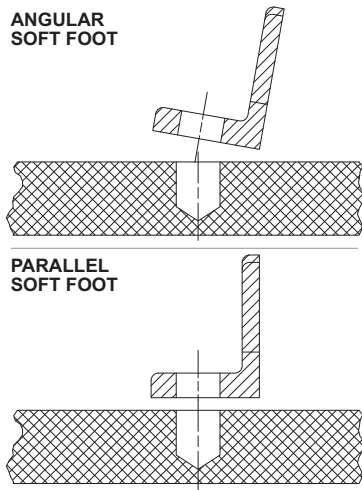

Figure 5-2 – Illustrations of Soft Foot
**Figure 5-2** shows the two most common types of soft foot conditions. If either type is present at a measurement of more than 0.003 in. (0.076 mm), the blower may fail prematurely.